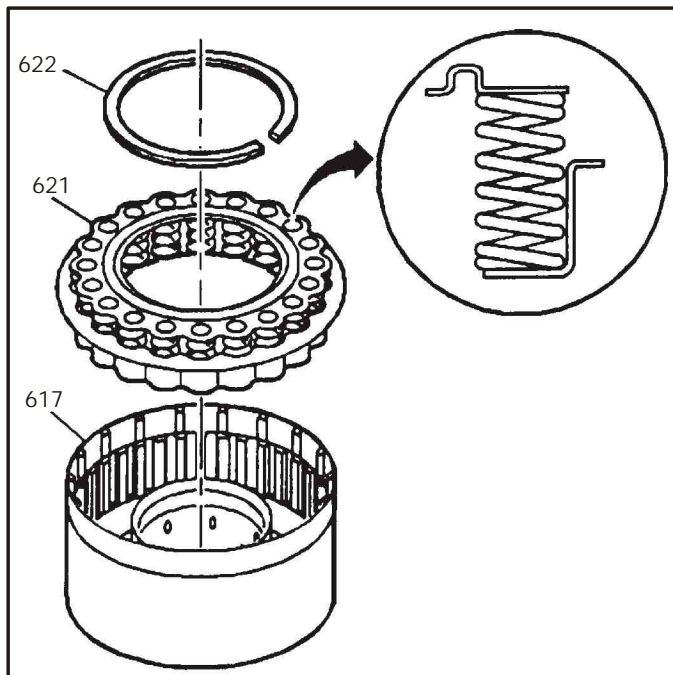

Figure 122
8. Install the 2nd clutch return spring assembly into the housing in the direction shown in Figure 122.